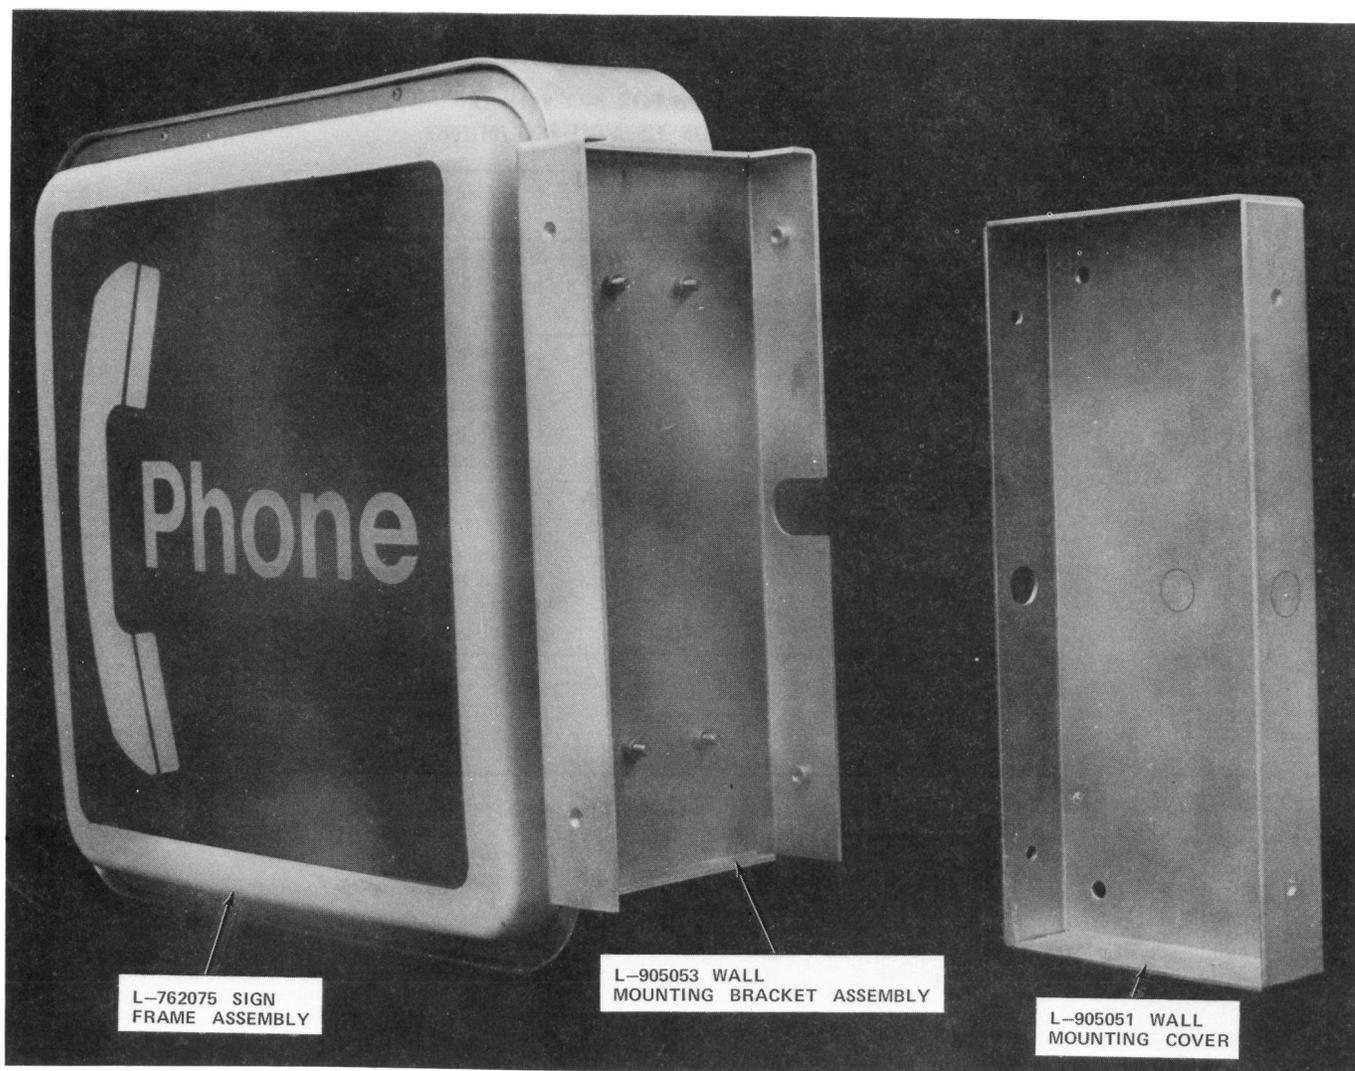

Fig. 35—♦KS-20135, List 2 Sign and List 15 Wall Mounting Bracket♦
3.22 Install the List 2 (Fig. 35) or 12 sign as follows.